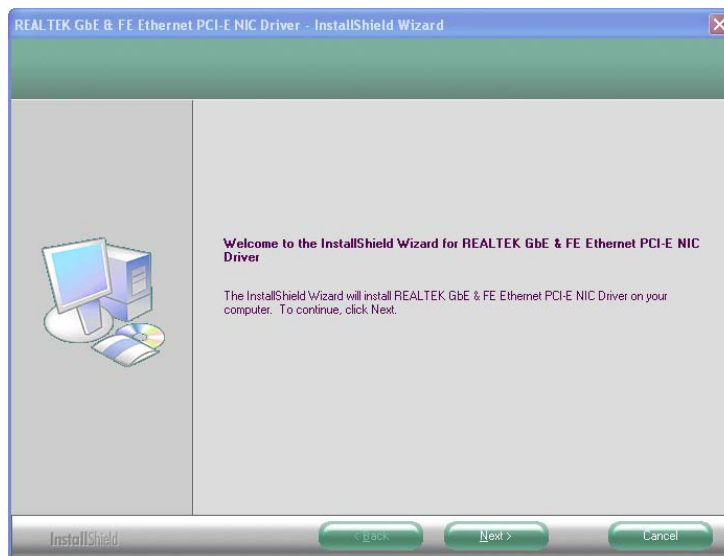

Figure 5-15: LAN Driver Welcome Screen
- Step 4:** The **Welcome** screen in **Figure 5-15** appears.